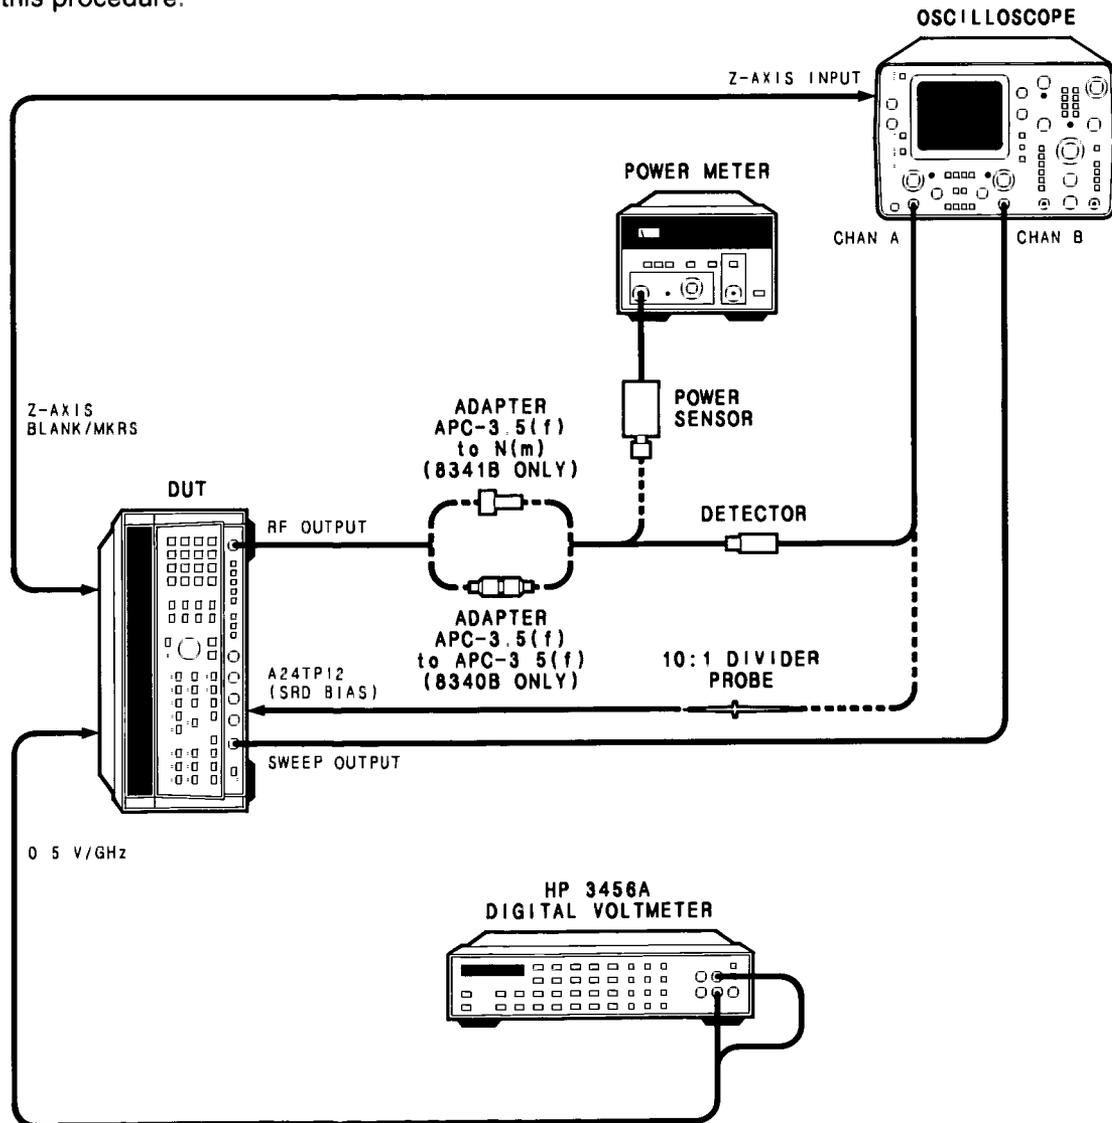

Figure 5-40. Unleveled RF Output Adjustments Setup
- Place the DUT in the test position and connect the oscilloscope and detector as shown in Figure 5-40. Connect the DVM to the DUT's rear panel 0.5 V/GHz output BNC. Switch the DUT's LINE switch ON and allow the equipment to warm up for one half hour.
9. Connect the oscilloscope and detector as shown in Figure 5-40. Set the oscilloscope to A vs B mode, horizontal sensitivity (CHAN B) to 1 V/Div dc, and vertical sensitivity (CHAN A) to 0.05 V/Div dc. Adjust the horizontal and vertical position controls to view the entire swept RF output response on the oscilloscope. Readjust the vertical sensitivity if necessary so that the trace covers the maximum number of divisions possible.